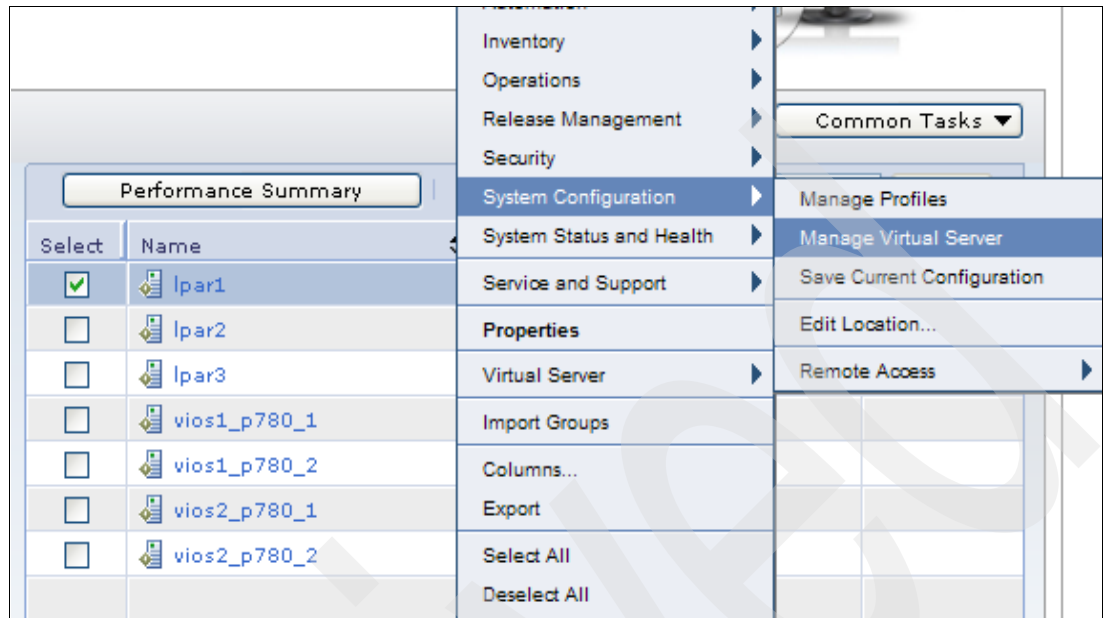

Figure 2-37 Managing an LPAR (Virtual Server) configurations
2. The Actions menu appears. Select **System Configuration** → **Manage Virtual Server**, as shown on Figure 2-37.